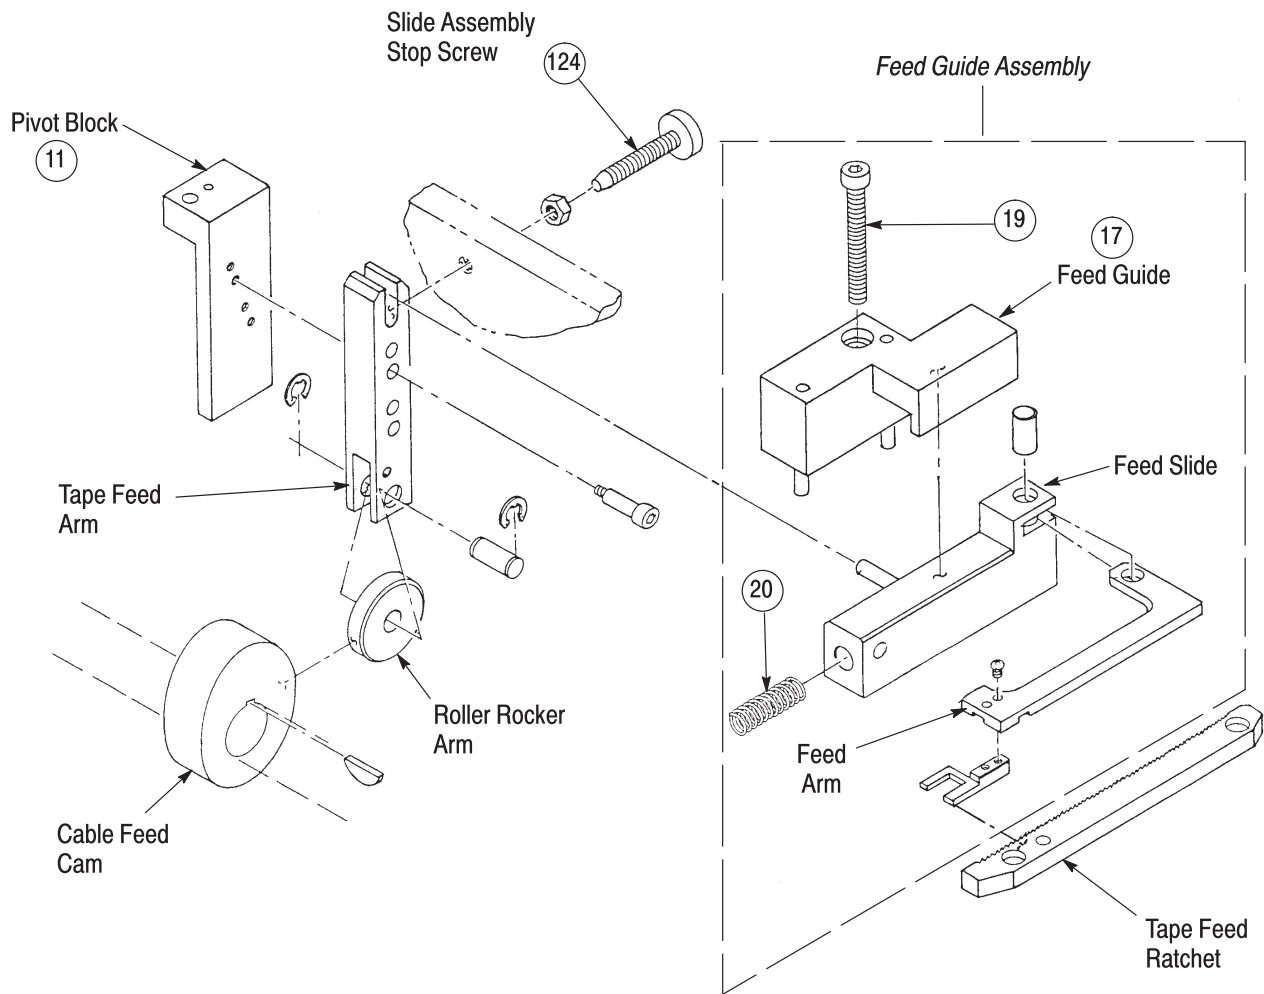

Figure 9
3. Remove all of feed guide assembly," (Figure 9, see box detail, Item 17, Part Number 854924-1) (one socket head capscrew).
4. Remove Item 11, pivot block, with the tape feed arm attached. See Figure 9 (one socket head capscrew).
8. Adjust slide assembly stop screw (see Figure 9) when running 5.08 mm [.200 in.] or 7.62 mm [.300 in.] conductor centerline. Hand-cycle the machine to ensure table is indexing correctly.